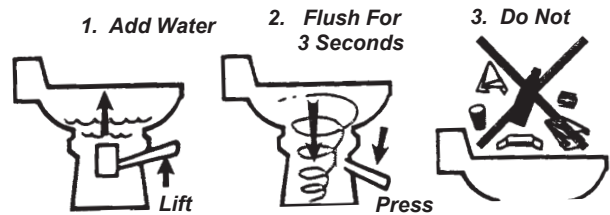

Figure J16: VacuFlush Operations
The VacuFlush® toilet operates in a different way from other marine toilets. VacuFlush® systems use a small amount of water (a little more than a pint) per flush in addition to a simple vacuum. The toilet is connected to the fresh water system. Fresh water is the key to an odor free bathroom compartment. VacuFlush® toilets are equipped with an integrated vacuum breaker which prevents the possible contamination of the potable/fresh water supply. See Figures J16 & J17. Also refer to the manufacturer's literature included in the owner's packet.
1. To add water to the toilet before using, raise flush lever until desired water level is reached. Generally, more water is required only when flushing solids. See Figure J16.